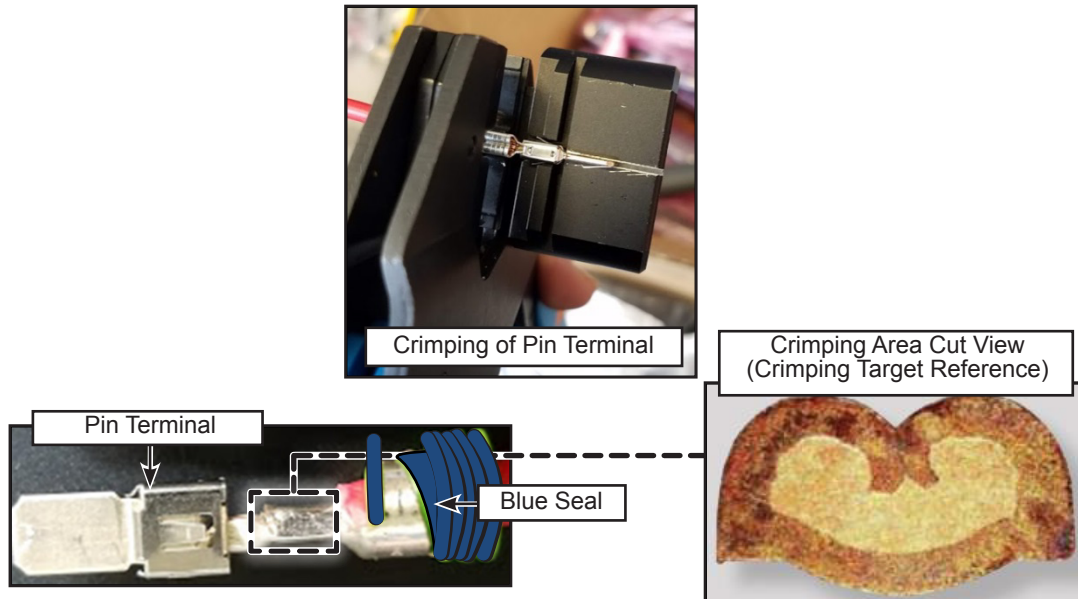

Figure 15 - TE Connectivity HDSCS Pin Terminal and Blue Seal
- 1.25. Using the HDSCS crimping tool (see figure 8), crimp the pin terminal PN N97874-02 with the blue seal PN N77237 on both RED and BLACK power wires (see figure 15). Refer to the figure below showing a typical HDSCS terminal crimp example and to Annex 1 for more information about the HDSCS connectors terminal crimping quality guidelines.